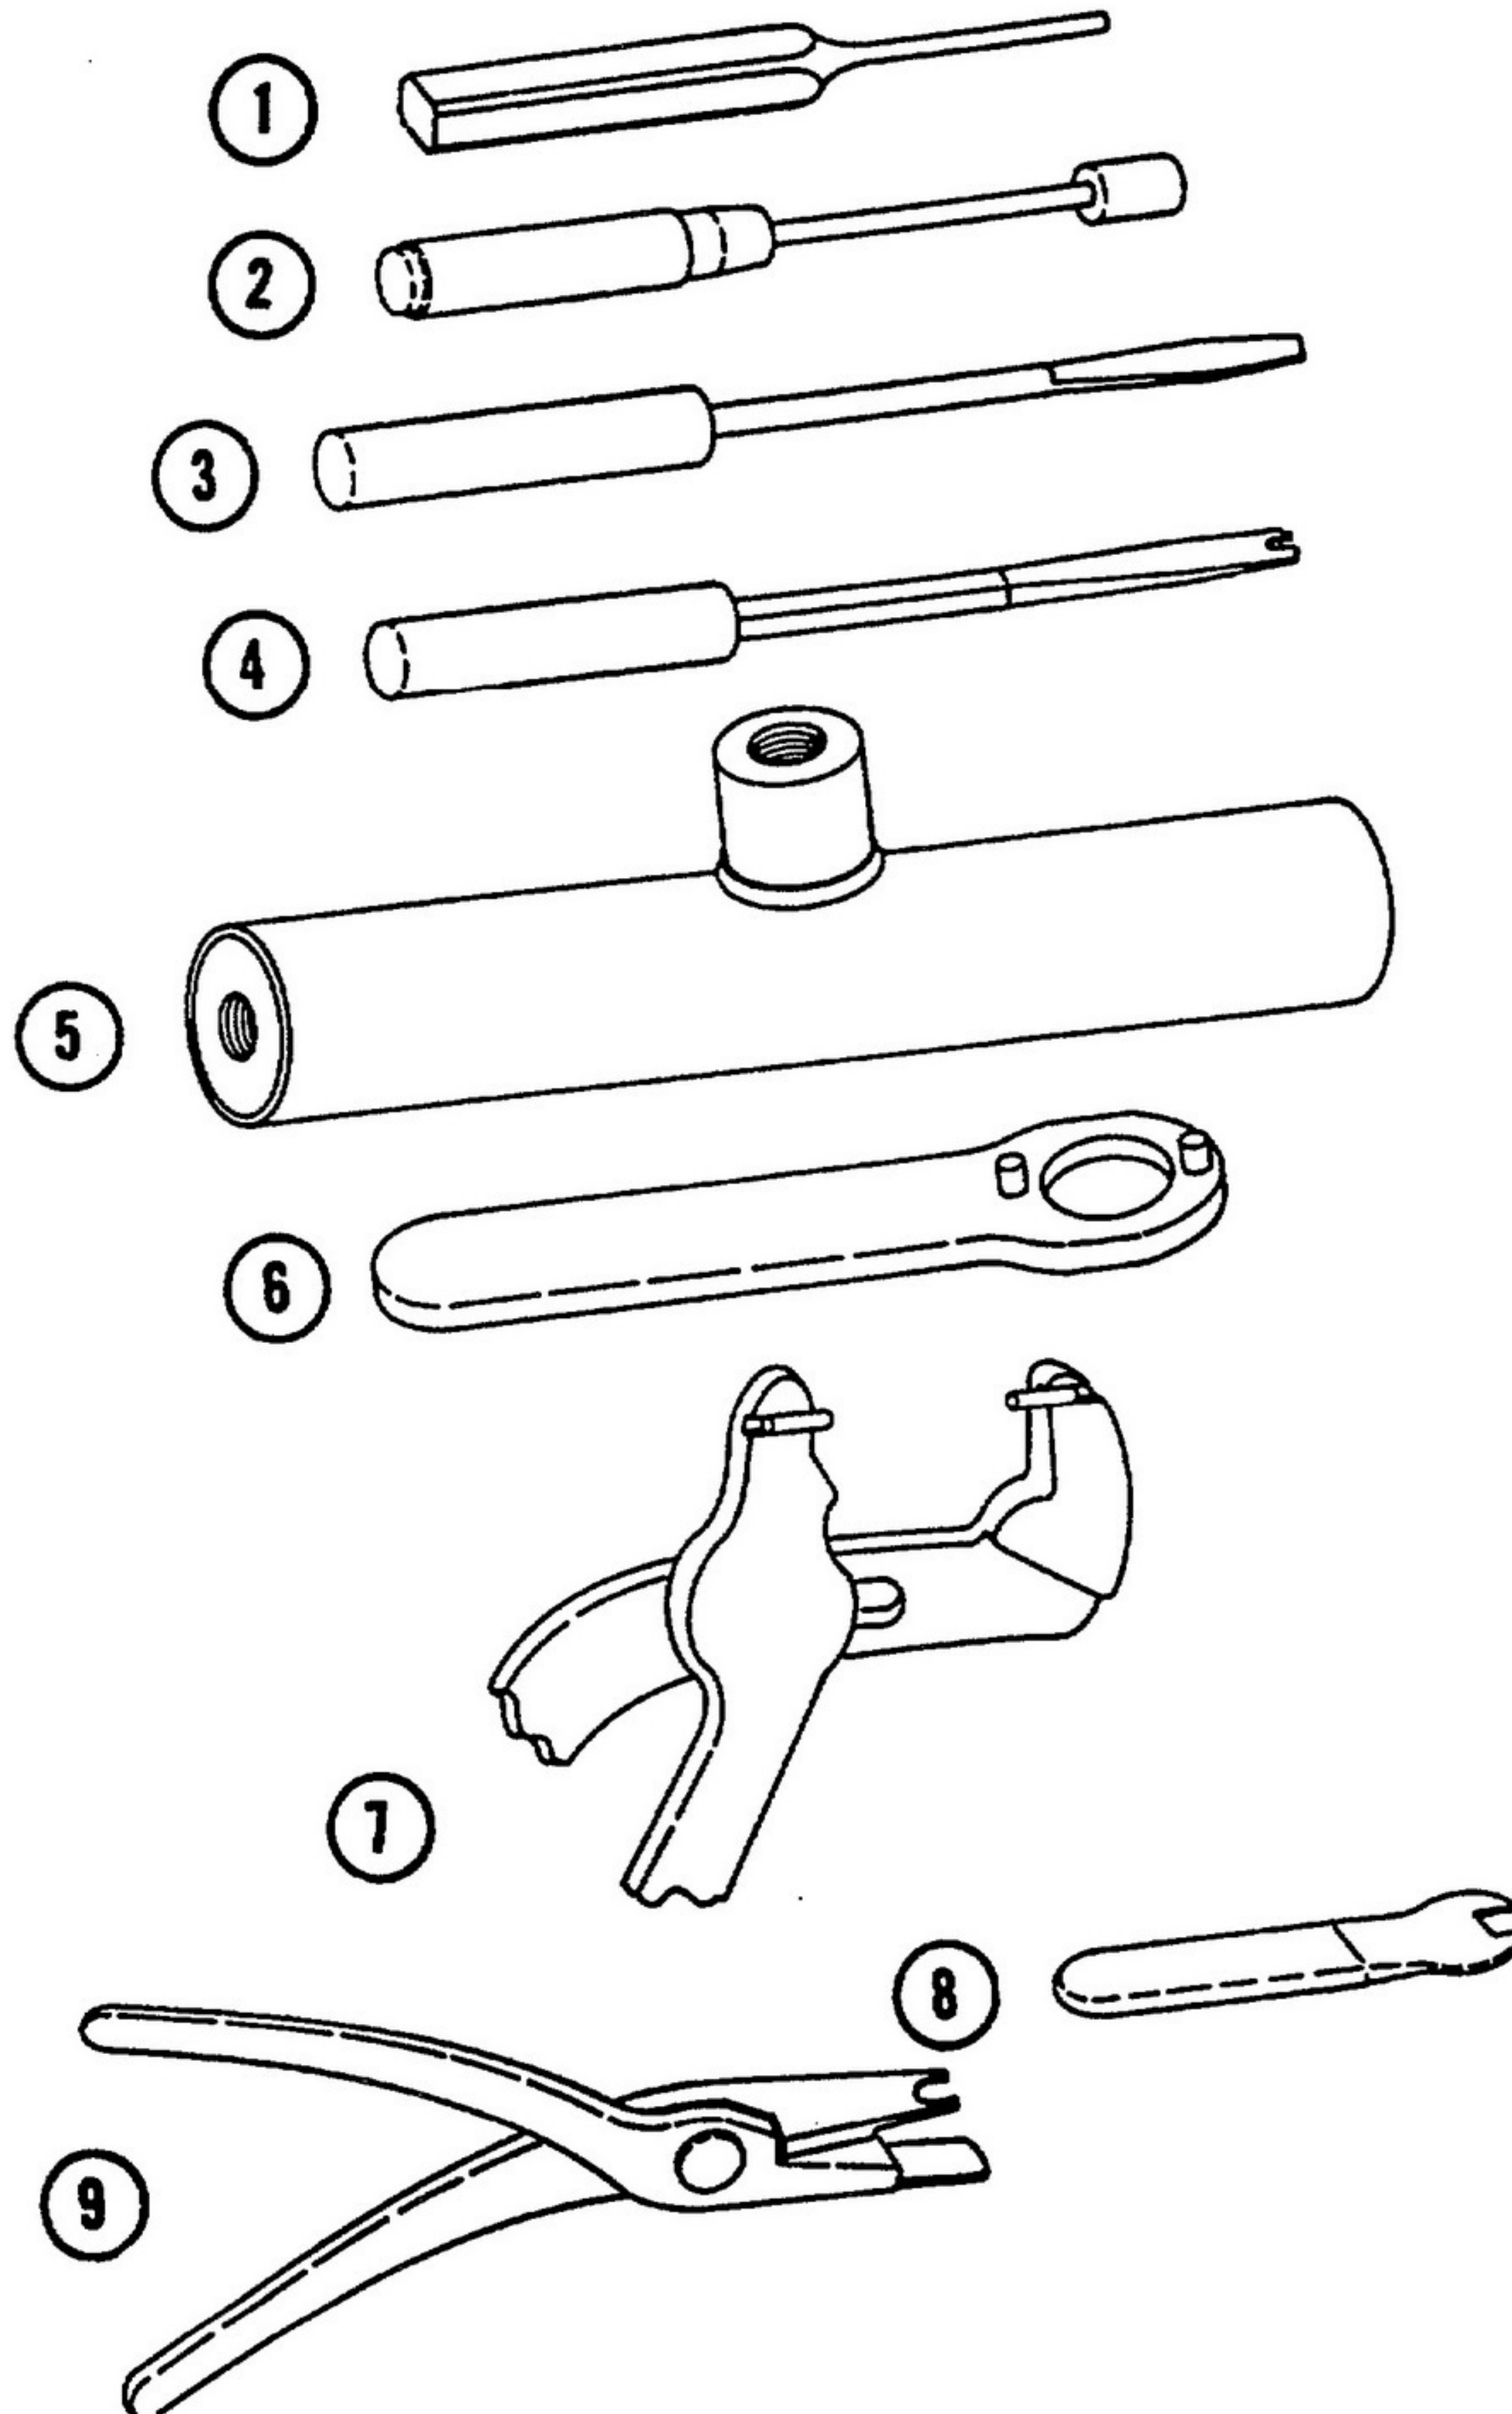

Figure 901: Special Tools
A list of special tools and/or equipment required for assembly of the 10260 Series Oxygen Regulator Assemblies is presented in Table 701. Entries in the "ITEM NO." column refer to the tool illustrations presented in Figure 901. Equivalent Tools and/or Equipment may be used for the listed items.
B. Attach plate (440, -450, -460) to body (480) with screws (470).
C. Thread tube (430) into body (480) using screwdriver (3, Figure 901). Tighten the tube until it bottoms in the body.
D. Assemble shaft (420) to link (380) with pin (370). Lock pin in place with retaining rings (360).
E. Slide actuator (390) through shaft (420); using pin (400), connect link (380), link (410) and actuator (390). Lock pin in place with retaining rings (360). Place spring (350) on shaft (420). Place this assembly into body (480).
F. Push pin (340) through body (480) and rear pivot of link (410) using punch (1, Figure 901). Install gaskets (330) and screws (320). Torque screws to 40-50 IN LBS (4.5 - 5.7 Nm).
G. Place seat (300) on valve (280). Thread nut (310) onto valve (280). Place this assembly in body (480). Using screwdriver (2, Figure 901) thread valve (280) into shaft (420) until flats of nut (310) are exposed beyond wall of body (480). Hold nut (310) with wrench (8, Figure 901) and back-off valve (280) 1-1/2 turns counterclockwise. Lock nut (310) in place using wrench (8, Figure 901).
H. Compress spring (350) and install spacer (260) into place using pliers (9, Figure 901). Check that spacer is secure and maintains the spring in a compressed position.
J. Thread retainer (290) into body (480) and tighten using screwdriver (4, Figure 901) in outer slots of thread retainer; torque thread retainer to 35-40 IN LBS (4.0 - 4.5 Nm).
K. Apply a wipe coat of oxygen lubricant only to the outer ring of diaphragm (250). Install diaphragm (250) then plate (240) on actuator (390), finger tight only. Using spanner wrench (6, Figure 901) to hold plate, turn nut (230) to secure plate in position. Torque nut to 35 IN LBS (4.0 Nm).
L. Place spring (210 or 220) and guide (200) on plate (240). Using spanner wrench (7, Figure 901), screw cap (190) into body (480) until cap is threaded all the way into the body.
M. Install screw (170) through cap (190) and against guide (200). The screw must seat in the indentation on the guide. A sufficient amount of the screw must remain exposed to maintain a minimum of 1-1/2 threads engagement in nut (160) after proper regulator setting has been established.
Special tools required for maintenance of the 10260 Series Oxygen Regulator Assemblies are presented in Table 901. Figure 901 illustrates the special tools listed in Tables 901. Test Equipment required for testing of the 10260 Series Oxygen Regulator Assemblies are presented in Table 902. Equivalent tools and/or test equipment may be used for the listed items. Refer to the ILLUSTRATED PARTS LIST section of this manual for the item numbers given in the parentheses.